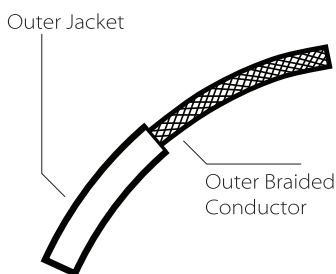

Fig. 1
3. Determine the height at which the fixture (F) is to be hung. Insert the steel cable (G) through the lock (H) and adjust to the desired length. To shorten the cable, push the cable up and it will be locked automatically. To lengthen the cable, lift up on the cable and push up on the lock. While keeping the lock depressed, lower the cable to the desired length. Release the lock to set.
- a. Connect the LED driver's (J) live wire to the live outlet box wire.
- b. Connect the LED driver's (J) neutral wire to the neutral outlet box wire.
- c. Connect the canopy's ground wire (green or uncoated) to the ground outlet box wire. If no ground is present in outlet box, connect canopy's ground wire to the mounting plate (K) using the green screw (included).
5. Install the mounting plate (K) to the outlet box (A) with outlet box screws (L).
6. Install canopy (M) to the mounting plate (K) with countersunk screw (N) using included screwdriver.
7. Use the screwdriver to loosen the slotted set screw (P). Adjust height of cord. Tighten the set screw to set. Reserve extra cord in the canopy (M).
8. Slide cord rings (Q) as close as possible to canopy (M) and fixture (F) (Figure 1).
9. Install trim (R) by threading it to fixture (H).
**Note:** If using optional shades, install shade (S) and trim (R) by installing trim through hole in shade, installing rubber gasket (T) to trim, and threading trim to fixture (F).
10. Restore power to the outlet box (A).
(Figure 1)
1. Make a 1" slice along the length of the cord's outer jacket (Fig. 1).
2. Carefully strip the outer jacket of the cord and keep the outer braided conductors intact (Fig. 1).
2. Install the mounting plate (B) to the ceiling under outlet box (A) with included screws (C).
3. Determine the height at which the fixture (D) is to be hung. Insert the steel cable (E) through the respective holes in the canopy (H) for the lock (F) and adjust to the desired length. To shorten the cable, push the cable up and it will be locked automatically. To lengthen the cable, lift up on the cable and push up on the lock. While keeping the lock depressed, lower the cable to the desired length. Release the lock to set.
4. Use the screwdriver to loosen the slotted set screw (G). Adjust height of cord. Tighten the set screw to set. Reserve extra cord in the canopy (H).
- c. Connect the canopy's ground wire (green or uncoated) to the ground outlet box wire. If no ground is present in outlet box, connect canopy's ground wire to the mounting plate (B) using the green screw (included).
6. Install canopy (H) to the mounting plate (B) with canopy nuts (K) and make final adjustments to the height.
7. Slide cord rings (L) as close to canopy (H) and fixture (D) as possible (Figure 1).
8. Install trim (M) by threading it to fixture (D).
**Note:** Install shade (N) and trim (M) by installing trim through hole in shade, installing rubber gasket (P) to trim, and threading trim to fixture (D).
9. Restore power to the outlet box (A).